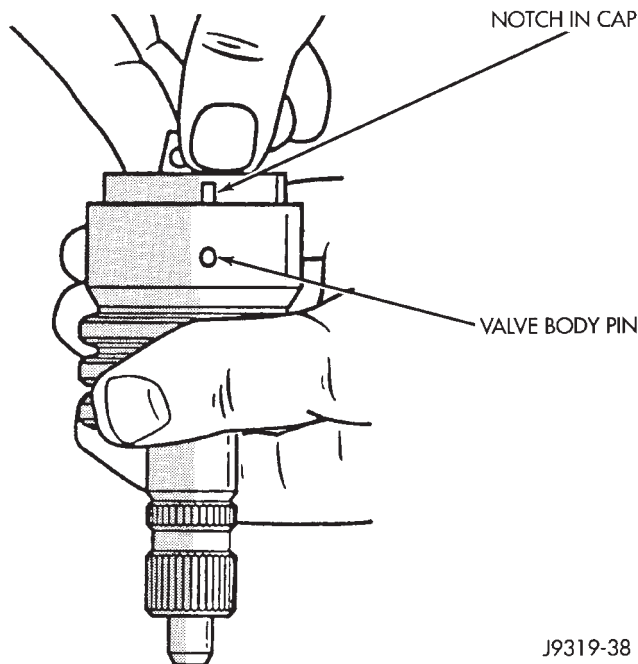

Fig. 28 Stub Shaft Installation
- (1) Install valve spool O-ring seal to valve spool.
- (2) Lubricate valve spool and O-ring seal with power steering fluid.
- (3) Install valve spool to valve body by pushing and rotating. Hole in valve spool for stub pin must be accessible from opposite end of valve body.
- (4) Assemble stub shaft to valve spool, if necessary and insert pin (Fig. 28).
- (5) Install O-ring seals and teflon rings to valve body.
- (6) Lubricate O-ring seals and teflon rings with power steering fluid.